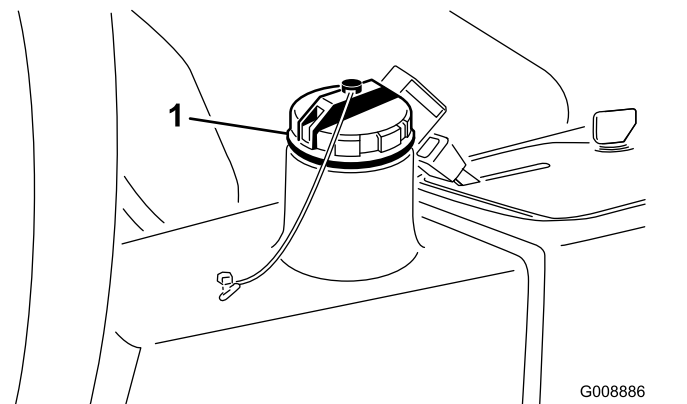

Figure 80
4. Fill the reservoir (Figure 80) with approximately 13.2 liters (3.5 US gallons) of hydraulic fluid; refer to Checking the Hydraulic System \(page 23\).